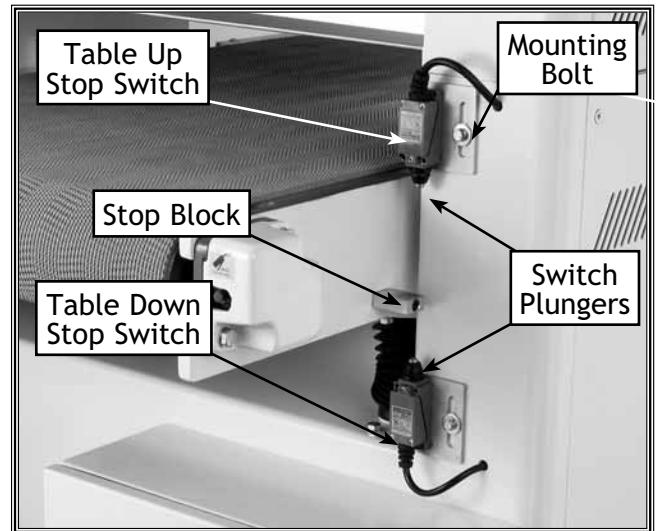

Figure 27. Table stop switch adjustment locations.
3. Loosen the mounting bolt for the table-down stop switch and move the switch so the switch plunger depresses against the stop block and you hear the switch click. See **Figure 27**.
6. Loosen the mounting bolt for the table-up stop switch and move the switch so the switch plunger depresses against the stop block and you hear the switch click. See **Figure 27**.
The conveyor table lift motor is controlled by the key pad and indicated on the digital display shown in **Figure 27**. You can push the **UP** or **DOWN** arrow keys to lift or lower the table, or you can use the automated function of auto height adjustment for your next sanding pass. All functions are controlled through the key pad and are presented on the digital display (**Figure 27**).